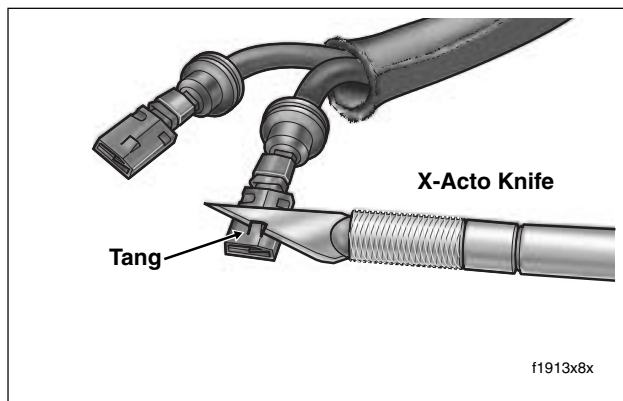

Figure 8-15. Bend Tangs Outward
- a. Using a fingernail or a thin flat blade, like that on an X-Acto knife, carefully bend the tangs outward away from each terminal body. See Figure 8-15.